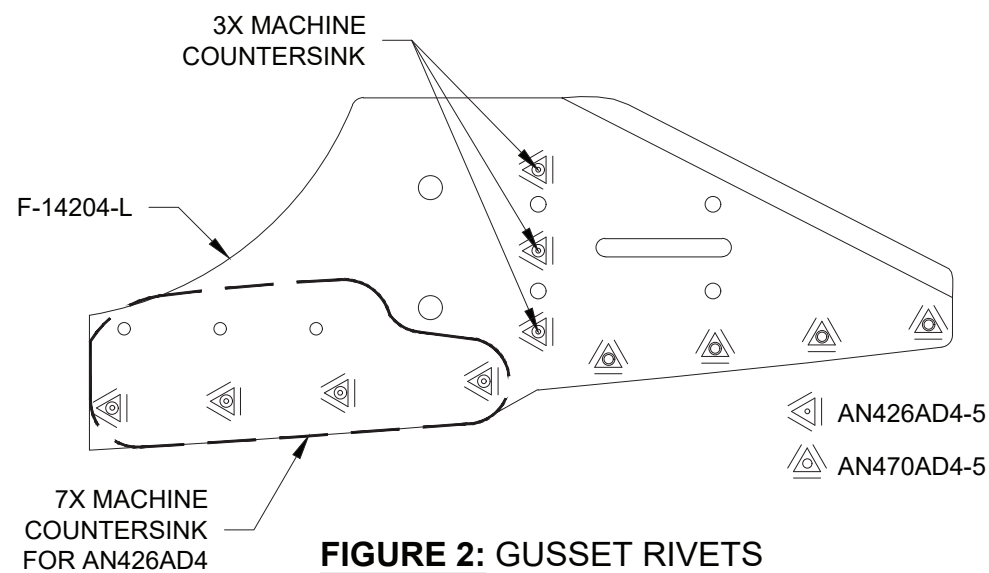

FIGURE 2: GUSSET RIVETS
Step 10: Rivet the F-01460-L & -R Intercostals to the F-14204-L & -R Gussets using the rivets called-out in Figure 2.